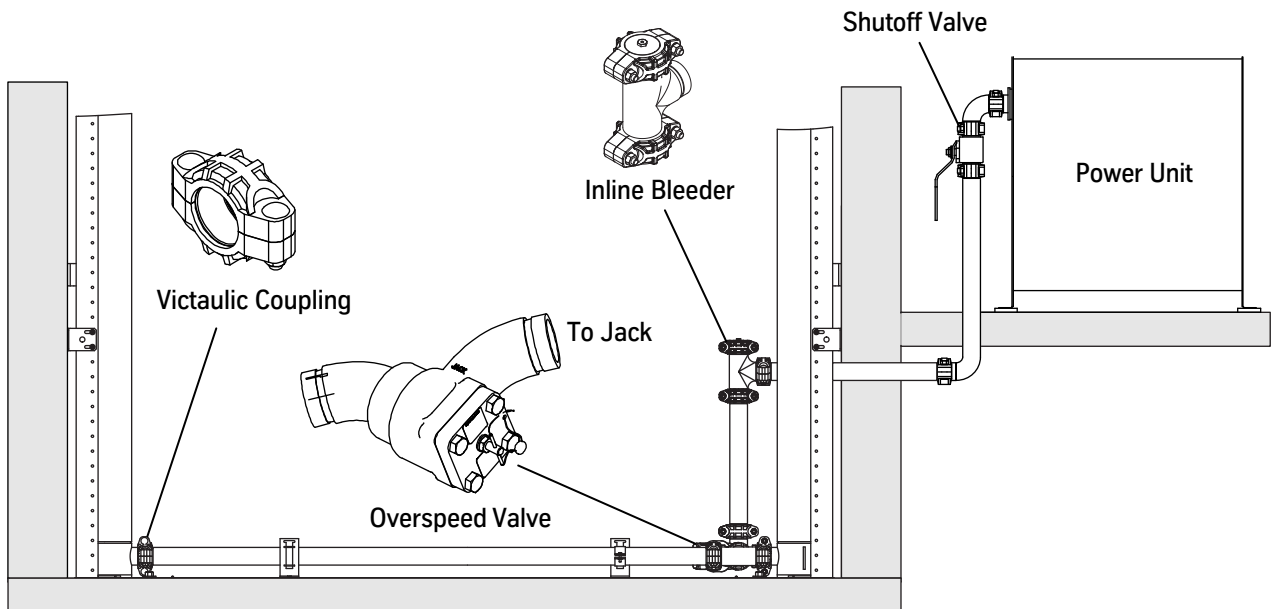
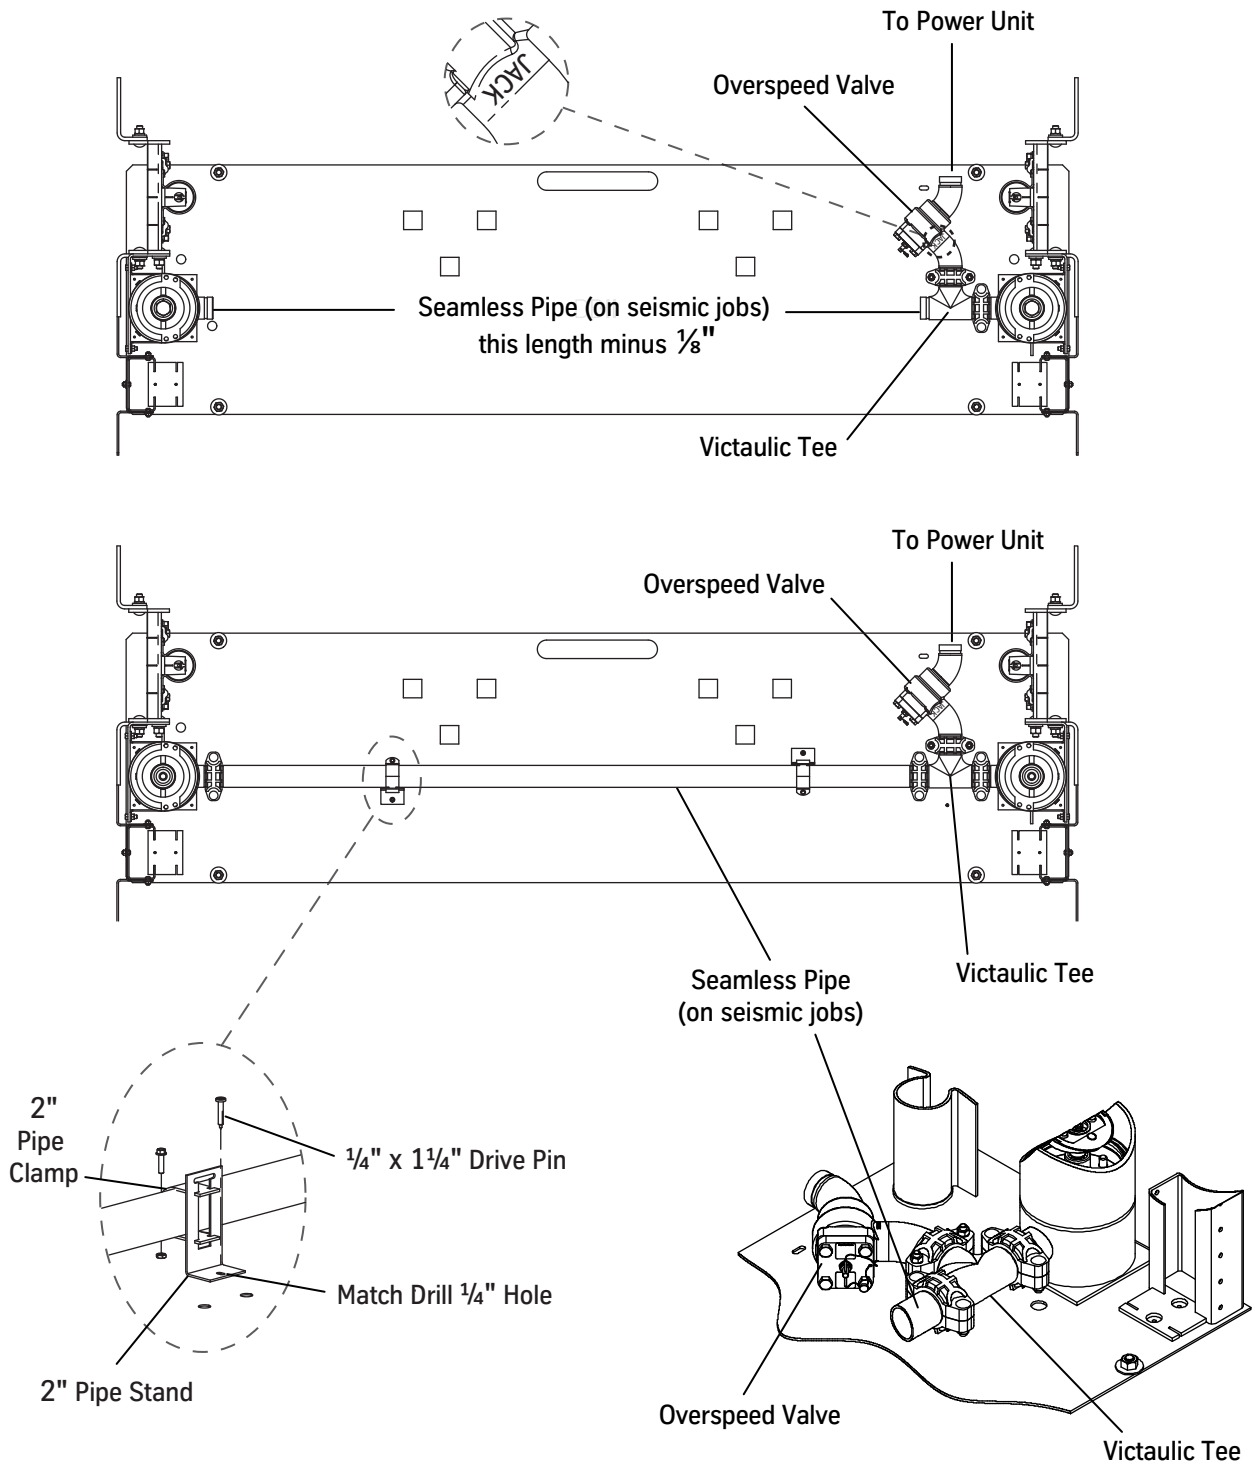

Figure 30 - Piping Installation from the Jack to the Power Unit
Figure 31 - Piping Between Jacks
2. Start installation with the jack that is nearest to the oil line that enters the hoistway, and install the Victaulic tee on that jack. See Figure 30 below and Figure 31 on page 56.